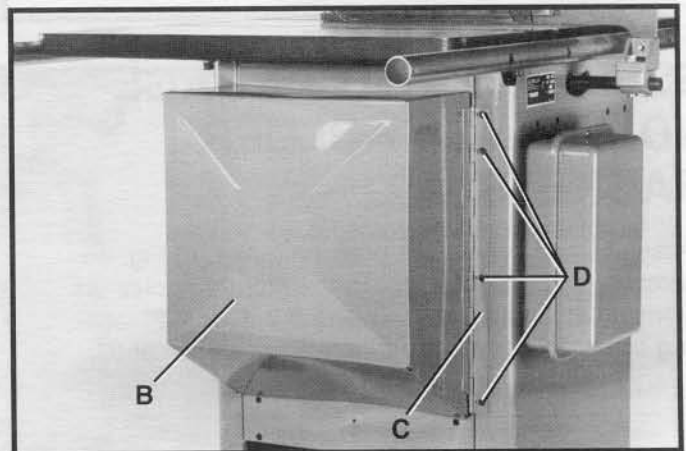

Fig. 32
2. Assemble hinged side (C) Fig. 32, of motor cover (B) to right side of saw cabinet using four 1/2" long self-tapping screws (D), as shown.